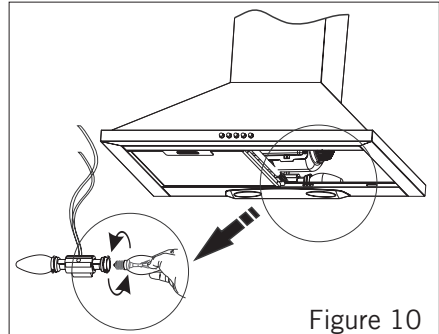

Figure 10
- Remove the holder on the LED bulb. Put the new LED bulb on the holder housing of the LED bulb you removed as shown in **Figure 10**.